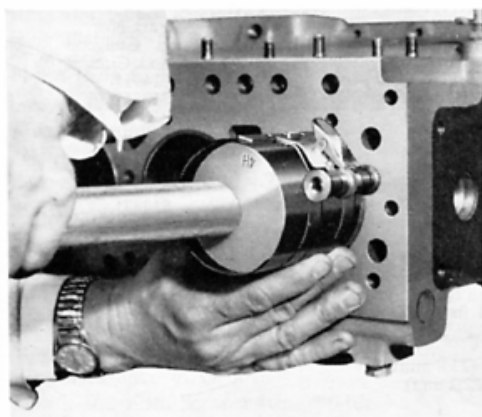

Fig. H.10.
2. Using a suitable ring clamp of the type shown in Fig. H.10, compress rings of No. 1 piston and hold in this position.
4. The piston crown may be gently tapped with the shaft of a hammer as shown in Fig. H.10 until all the rings have entered the cylinder bore.